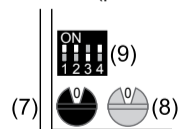

Figure 2: Rotary and DIP-switch setting
- On the button cover, set the group address 0-F of the black rotary encoding switch (Figure 2, 7) according to the setting on the BTE-116 button expander.
- On the button cover, set the subscriber address of the blue rotary encoding switch (Figure 2, 8) according to the bell push-button connection on the BTE-116 button expander.
- Set the DIP-switch for operating modes (Figure 2, 9) according to Table 1 below.